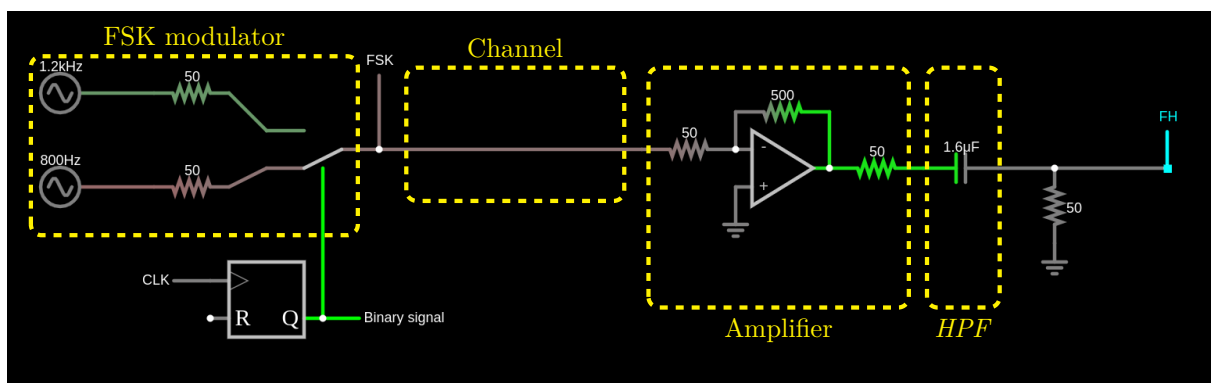

Figure 2: FSK with a high pass filter to discriminate frequencies.
3. Repeat the previous item for the high pass filter in the circuit of Figure 2.